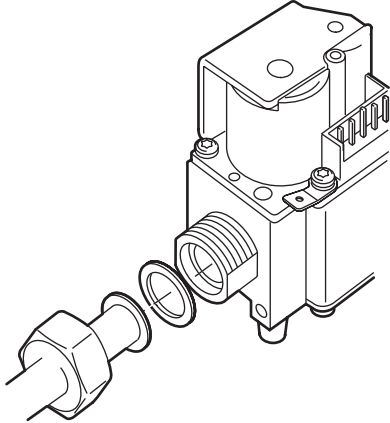

Fig. 5. External thread connection with nut and flat sealing ring
- ❶ With nut and flat sealing ring for pipe 14 mm (see fig 5.)
- ❷ With nut and flat sealing ring for pipe 15 mm (see fig 5.)
- ❺ With nut and flat sealing ring for pipe 15 mm (see fig 5.)
- ❻ With nut and flat sealing ring for pipe 18 mm (see fig 5.)